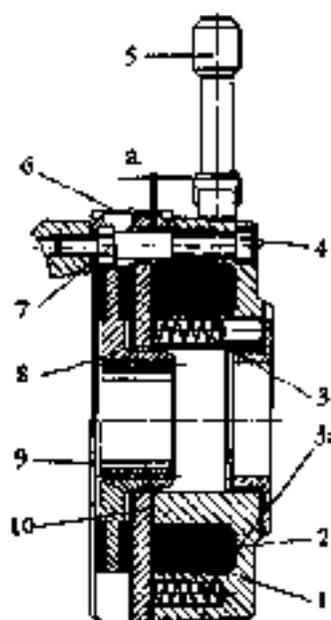

Fig. 4-01 Motor brake
The total thickness of the rotor (including the friction material) (fig. 4-01) must be at least 0.41 in. The air gap 'a' is adjusted by the manufacturer to 0.01 in and must never become more than 0.02 in.
- 3 Remove the release lever (fig. 4-01, item 5).
- 6 Remove the rubber dust ring (fig. 4-01, item 8).
- 7 Use a vernier calliper gauge to measure the thickness of the rotor (fig. 4-01, item 8). Replace the rotor if the thickness is 0.41 in or less; see paragraph 4.3.2.3. If the rotor is still o.k., check the air gap 'a'.
- 8 Use a feeler gauge to measure the width of the air gap 'a' near the three hollow adjusting bolts (fig. 4-01, item 7).
- 1 Loosen the locking bolts (fig. 4-01, item 4).
- 2 Use an open-end spanner socket to screw the three hollow adjusting bolts (fig. 4-01, item 7) further into the stator. Pay attention that those bolts are equally screwed into the stator.
- 3 Fasten the three locking bolts (fig. 4-01, item 4) step by step.
- 5 Mount the rubber dust ring (fig. 4-01, item 6), the fan with the seegering, the fan cover and the brake release lever.
- 2 Remove the locking bolts (fig. 4-01, item 4) and the stator.
- 6 Install the stator and fasten the locking bolts (fig. 4-01, item 4) handtight (torque: 7.39 lb ft).
- 8 Mount the fan, the rubber dust ring (fig. 4-01, item 6), the fan with the seegerring, the fan cover and the brake release lever.